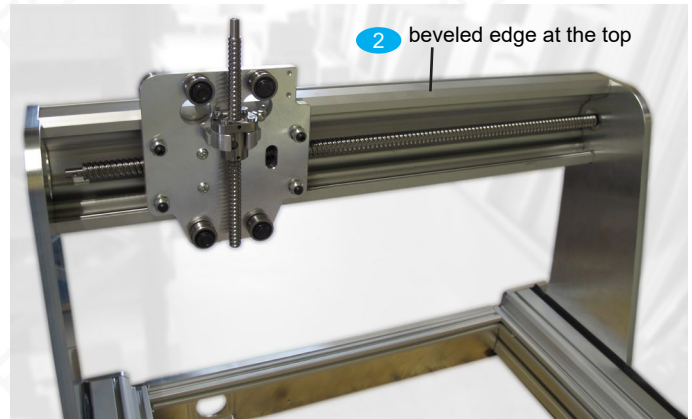

Fig. 19: Portal group consisting of guide profile and sled with roller guidance and spindles for X and Z
When installed, the beveled edge of the guide profile points upwards (see Figure 19).
- Use flat-head screws **G3** to assemble the construction consisting of the guide profile and sled between the portal plates, as shown in Fig. 19. Insert the right end of the X spindle into the sleeve bearing. Do not tighten the screws.